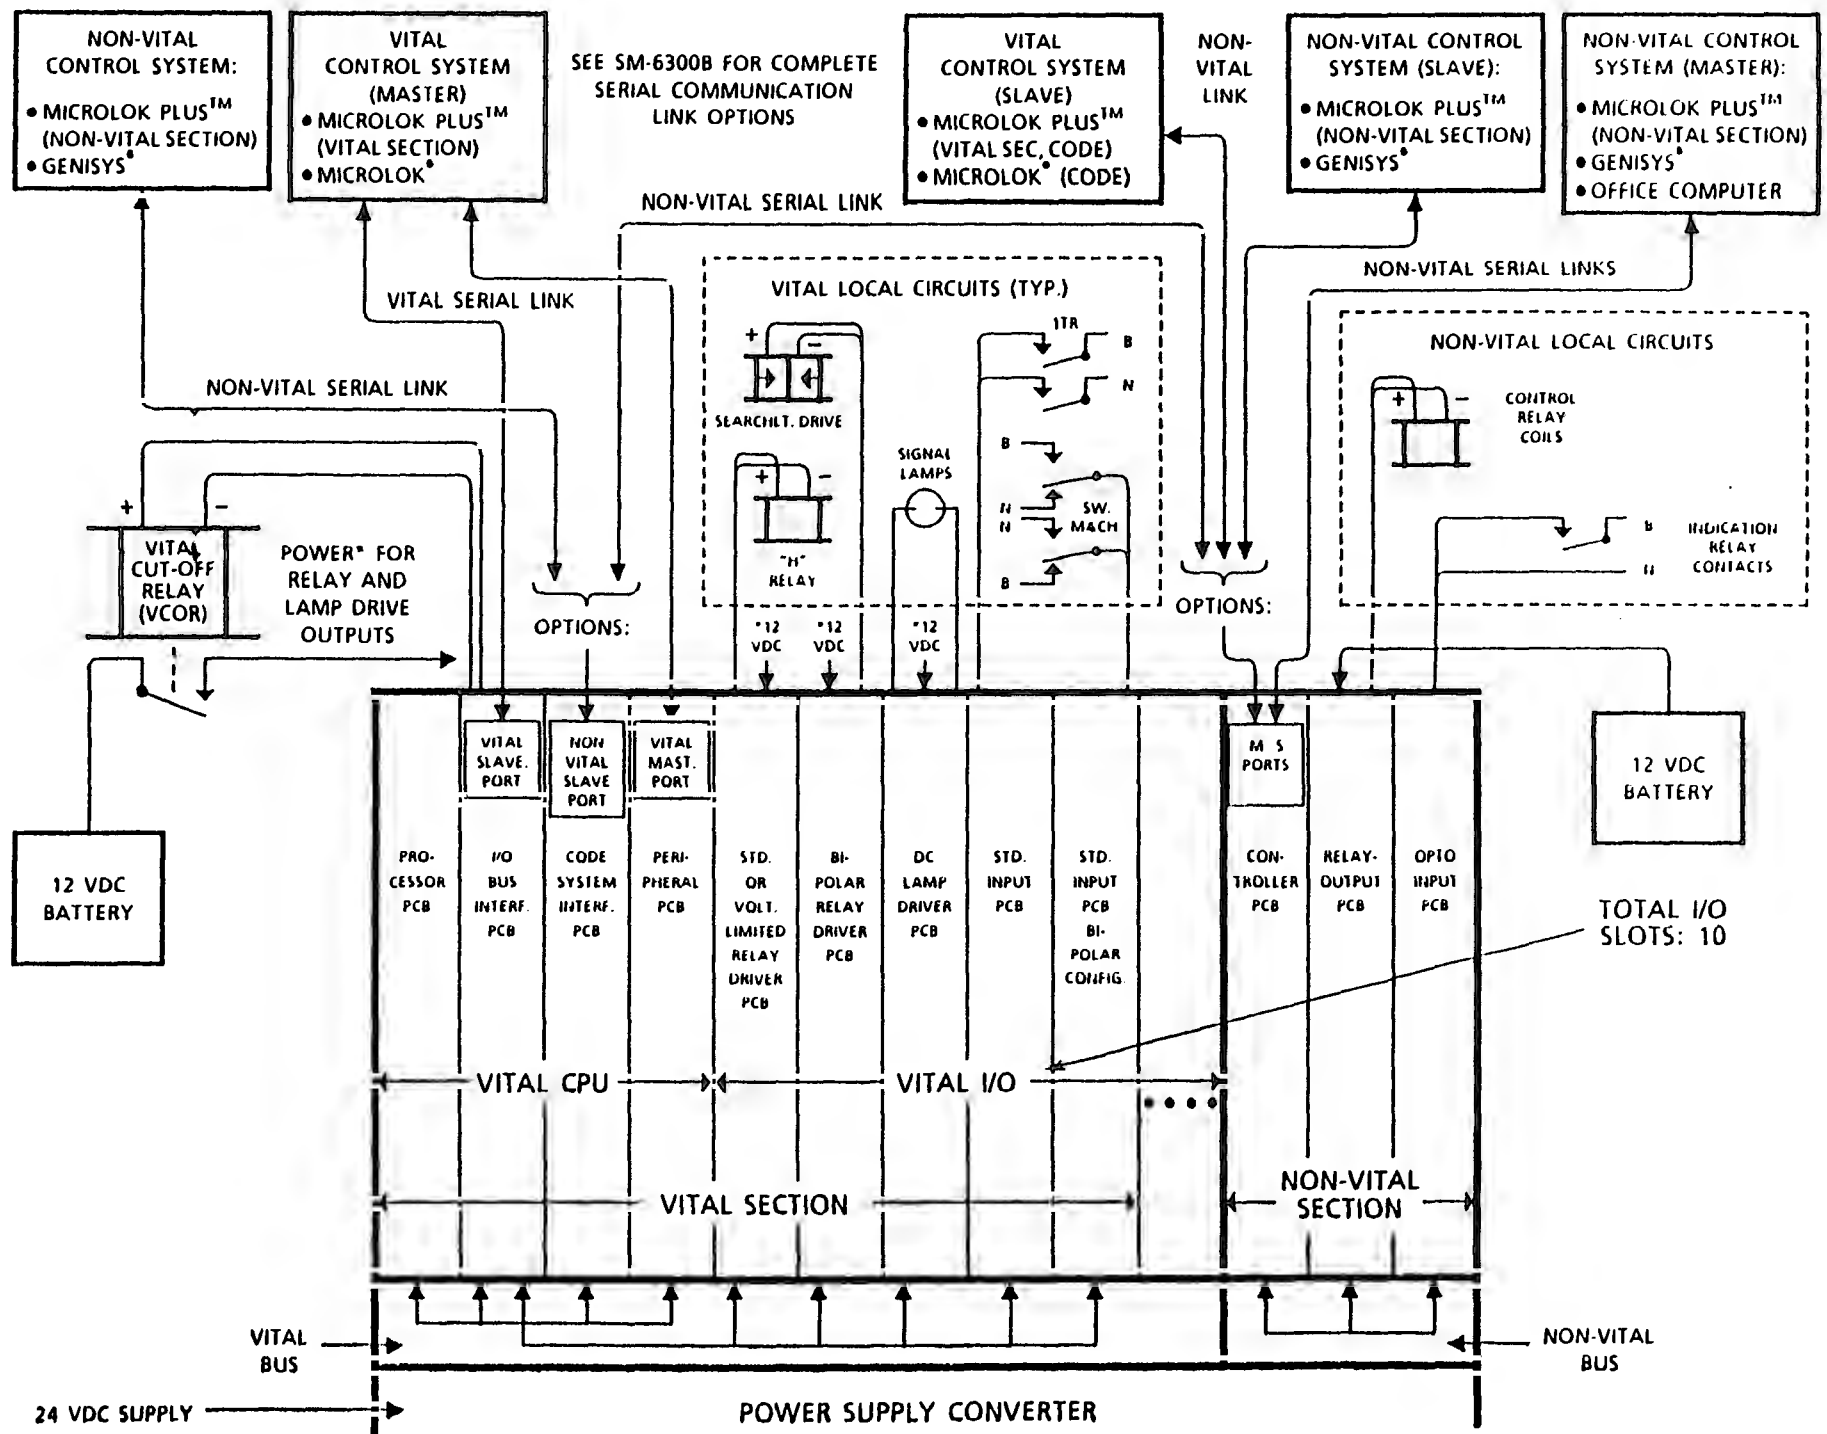

Figure 3-1. Basic MICROLOK PLUS System
3.1.1 Overall System (See Figure 3-1)